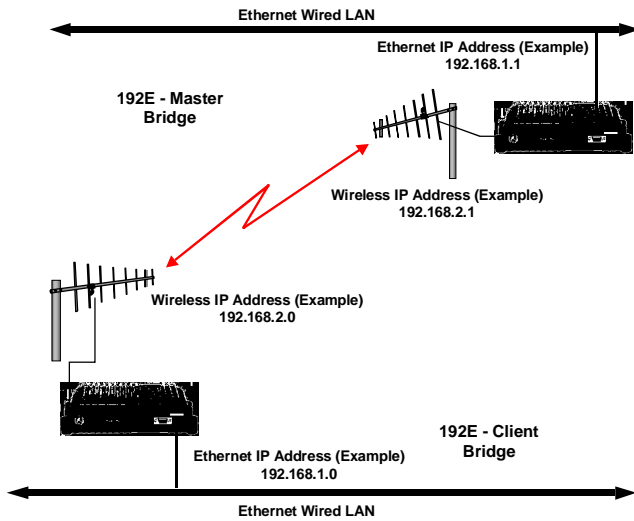

Figure 8: IP Addressing Diagram
5. Two unique IP addresses are required for the ESTeem Model 192E in bridging mode. Both the WLAN port and the 10BaseT port need a unique IP number (Figure 8). Select Current Wireless IP Address (2<Enter>) to assign the ESTeem an IP address.